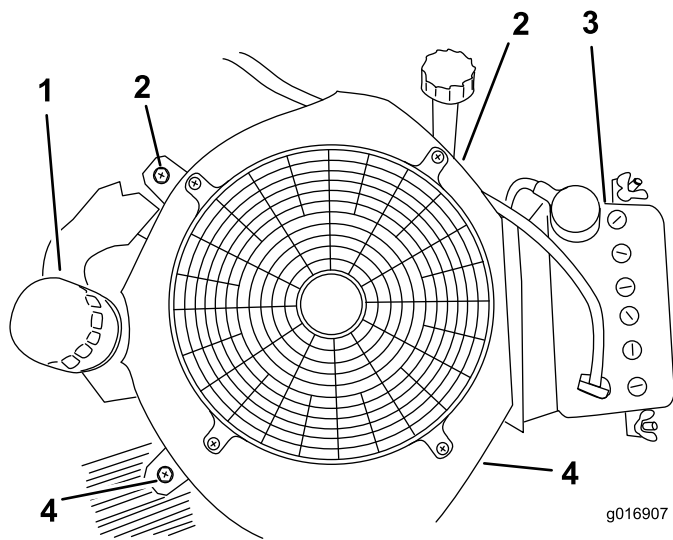

Figure 73
6. Remove the 2 screws on the left and right-hand sides in the cooling-fan housing (Figure 73).